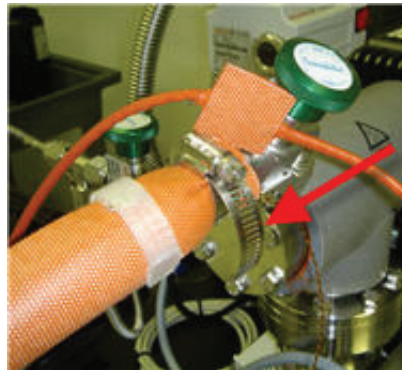

Figure 10
14. Plug the thermocouple wire and heater power cord into the ProLine electronics box (Figure 10).